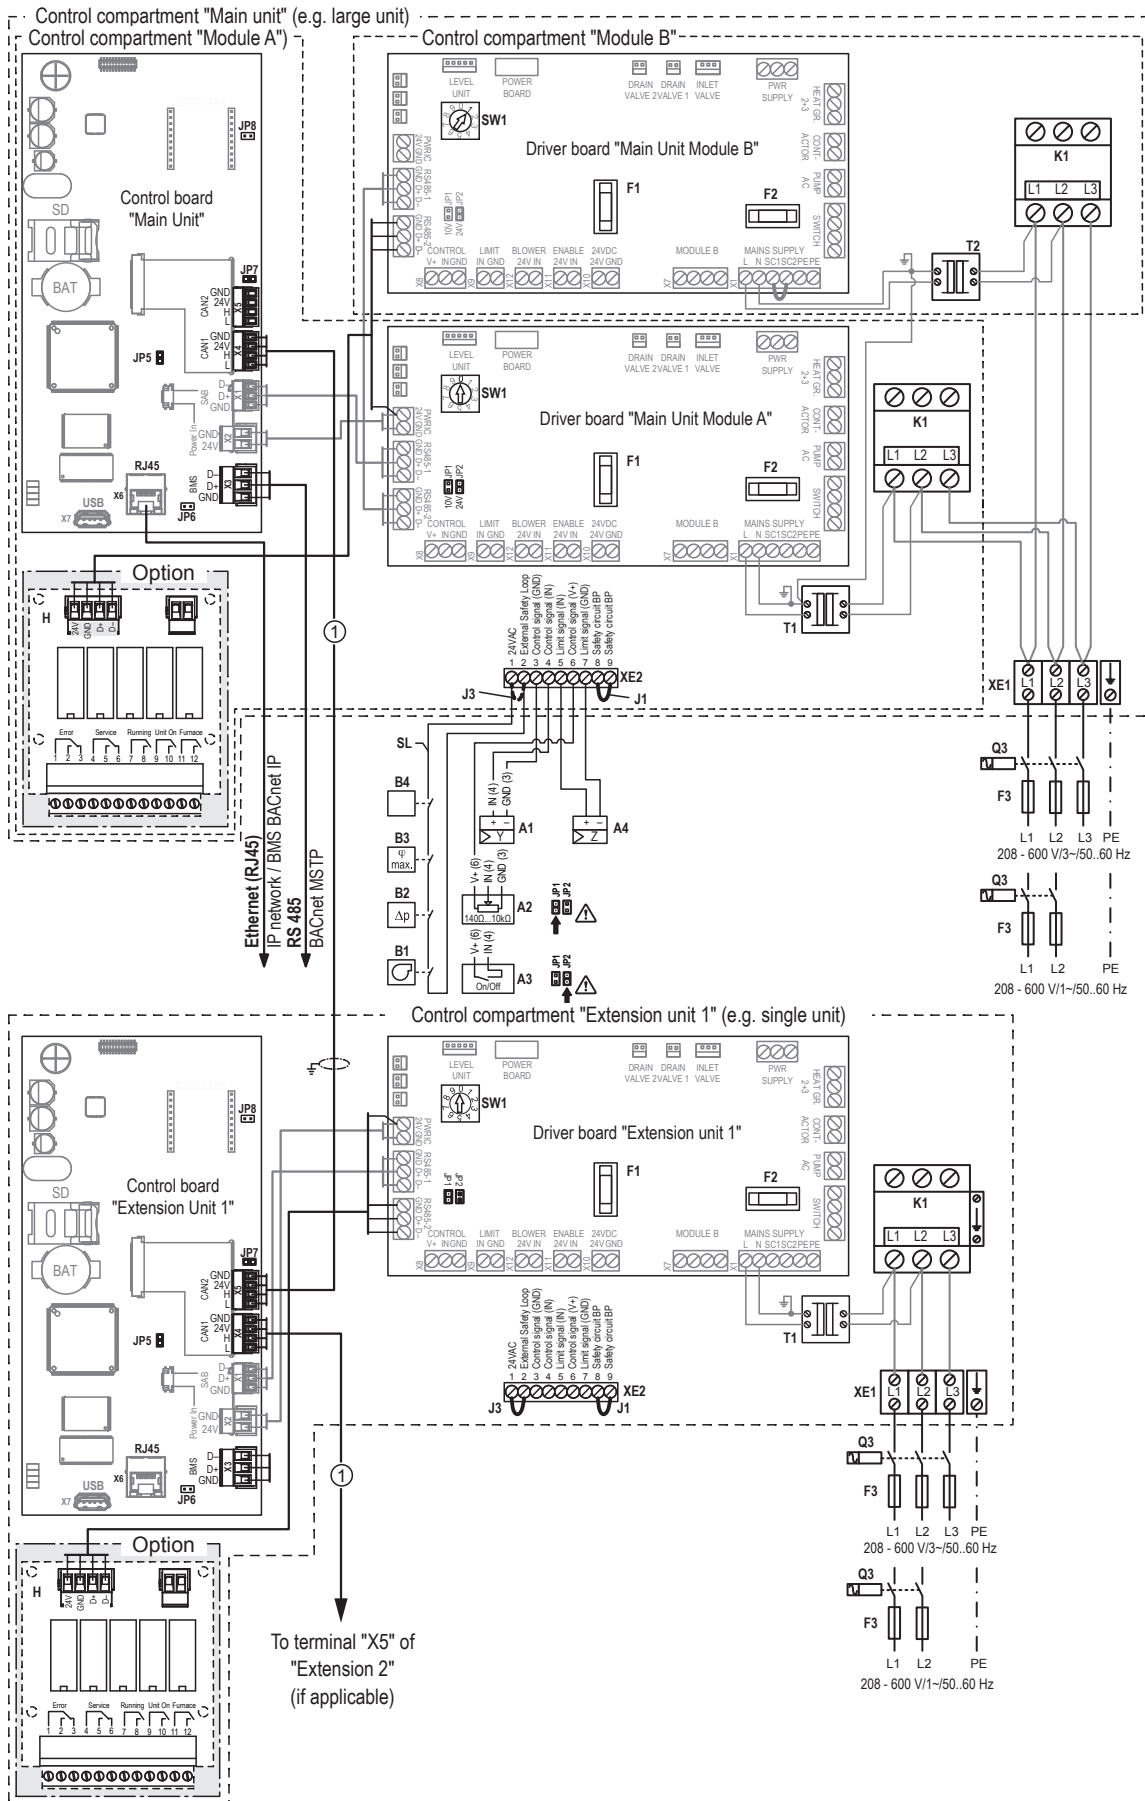

Fig. 24: Principle wiring diagram device interconnected systems
Up to 4 units (single or double units) can be interconnected to a so called "device interconnected system" via the CAN Bus connectors of the integrated controller (refer to Fig. 24).
1. Connect all **control signals** for the entire "device interconnected system" to the corresponding terminals of the driver board in the **main unit** (see Fig. 24).